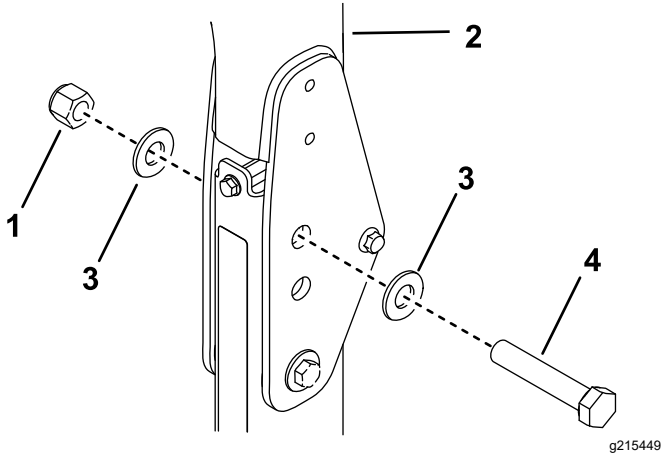

Figure 34
- Insert a washer (13/16 x 1-1/2 inches) onto each bolt (3/4 x 4 inches) as shown in Figure 34.
- In the holes where the pins were removed, install the bolts and washers (Figure 34).
- Install another washer onto each bolt and secure with nut (3/4 inch) as shown in Figure 34.